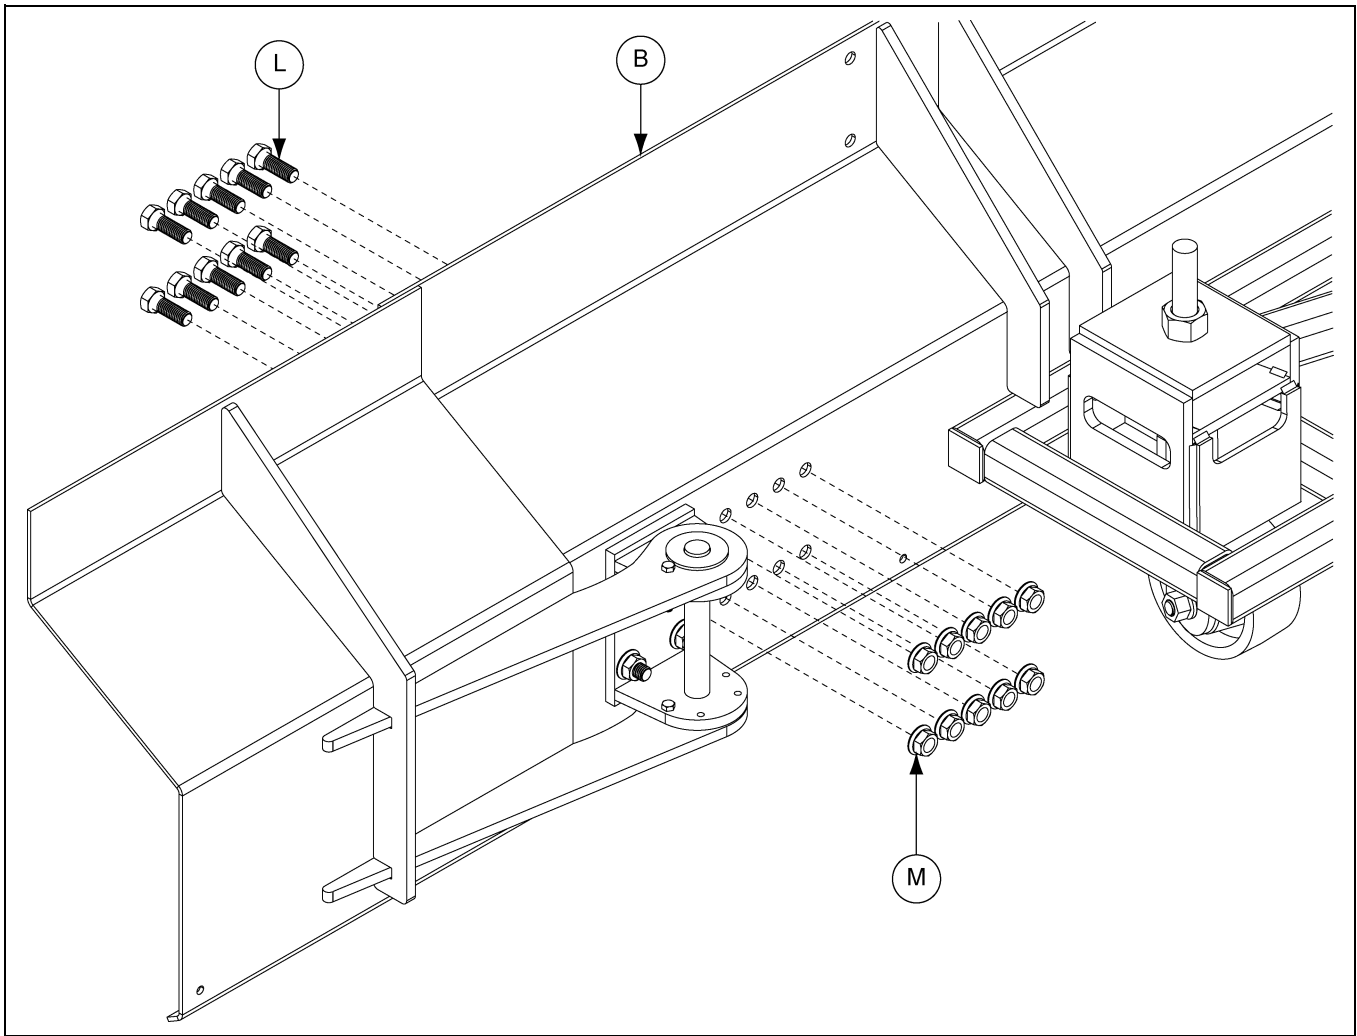

Figure 7G
3. Install hex bolts (L) and flange nuts (M) to sweep shield (B), to fill in all of the remaining bolt holes. (See Figure 7G.)
NOTE: Hex bolts (A) must be installed from auger side of sweep shield as shown. (See Figure 7G.)